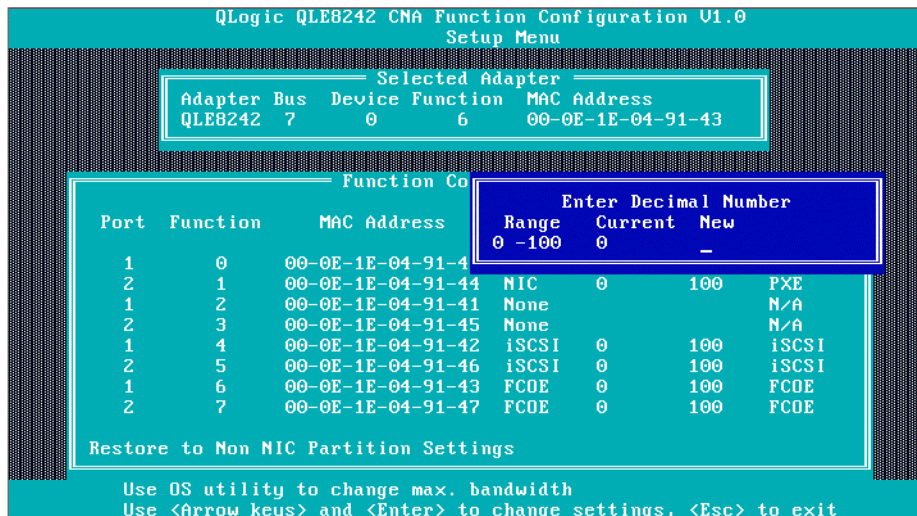

Figure 2-28. Adjusting the Minimum Bandwidth
4. Move your cursor to the **MinBW%** column to adjust the minimum bandwidth (Figure 2-28) on each partition (between 0-100%).
Do not set any bandwidth percentages for the FCoE function. The adapter uses the enhanced transmission selection (ETS) settings for determining FCoE bandwidth. The NIC bandwidth settings configured in the Figure 2-28 are not a percentage of the line rate (10Gb): they are a percentage of the NIC bandwidth allocated to this NIC port through ETS on the switch.